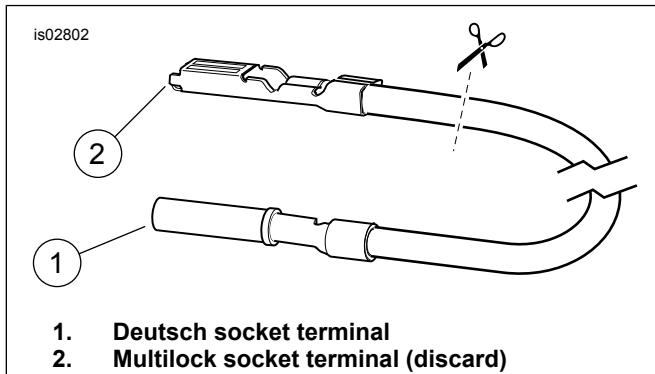

Figure 3. Cut Multilock Terminal From Adapter Lead
- Cut off and discard the terminal on the pink (PK) **mini-tach wire harness** signal lead.
- Obtain the signal adapter wire lead (13) and a sealed splice connector (6) from the kit. See Figure 3. Cut the Multilock socket terminal from the signal adapter wire lead, close to that terminal. Splice the signal adapter wire lead to the mini-tach wire harness signal lead according to the instructions in the service manual appendix.
3. See Figure 2 and Figure 3. Cut the un-needed socket terminal from the signal adapter wire lead, close to that terminal. Splice the signal adapter wire lead to the mini-tach wire harness signal lead according to the instructions in the service manual appendix.